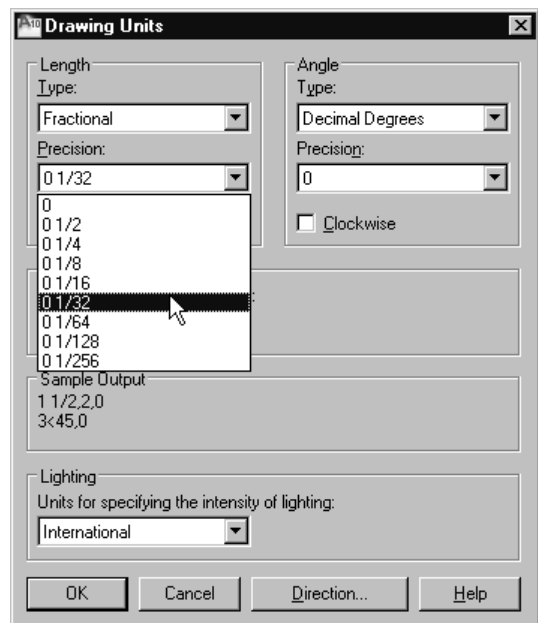

Figure 2-49 Setting units for Example 5 in the **Drawing Units** dialog box
2. In the **Length** area of the dialog box, select **Fractional** from the **Type** drop-down list. From the **Precision** drop-down list, select **0 1/32**, see Figure 2-49.